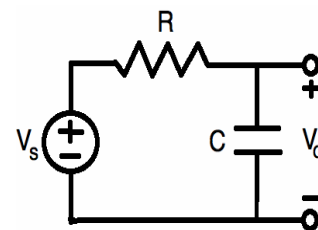

Figure 3A: Simple R-C Circuit
When you connect a capacitor to a battery, it charges up almost instantly. However, there are many times when we want to control the charge and discharge rate of a capacitor. For example, electric vehicles use a pre-charge circuit that slowly lets voltage build up on the motor before the driver accelerates so it doesn't burn the motor and other components. Figure 3A shows such a circuit. There is a resistor that is in series with the capacitor. The resistor is used to slow down the flow of electrons from the battery as they enter the capacitor. This slows down the charging time of the capacitor. This type of circuit is also used in electronic filters as we will see shortly.
We have seen how resistors are used to control current flow. By adding the resistor in series with my capacitor (C) in Figure 3A, it slows down the flow of the current and creates a delay so it will take a bit of time to charge the capacitor.
If I removed the battery in Figure 3A and replaced it with a switch, I could discharge the capacitor by closing the switch and allowing current to dissipate through the resistor. It would take the same amount of time to discharge the capacitor through my resistor as it took to charge it in the first place. So, after 11 seconds, the capacitor would be out of energy.